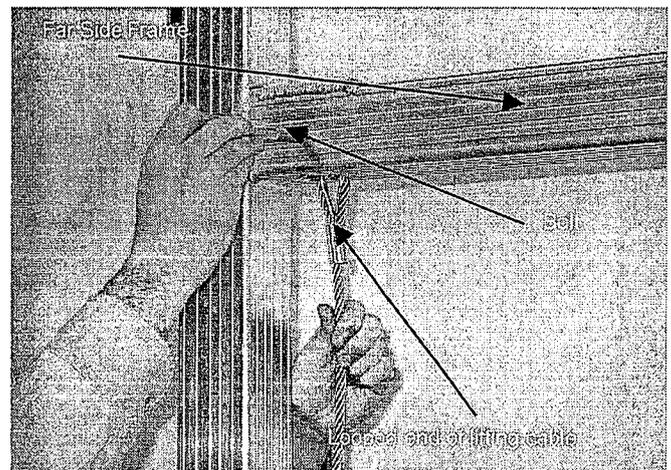

FIG. 21
2. Locate the 1/2" bolt, place through the hole in the far side frame as shown in FIG. 21. At the same time place the cable end loop up into the hole on the bottom side of the far side frame as shown in FIG. 21.
4. Firmly tighten at this time (See FIG. 21, 22).